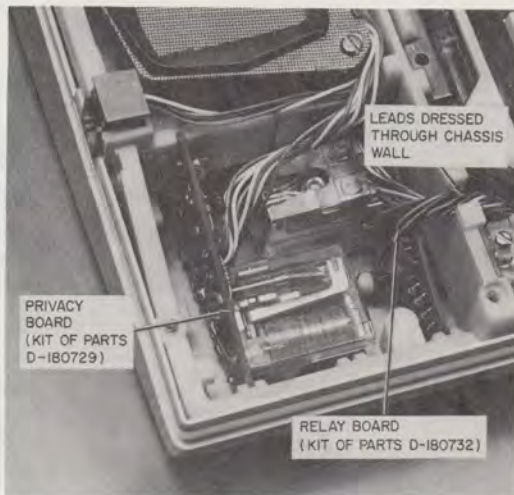

Fig. 36—Privacy and Relay Boards Installed in Telephone Set
- (b) Mount the privacy board in the lower left corner of the chassis by sliding it into the two notches with its relay to the right (Fig. 36).